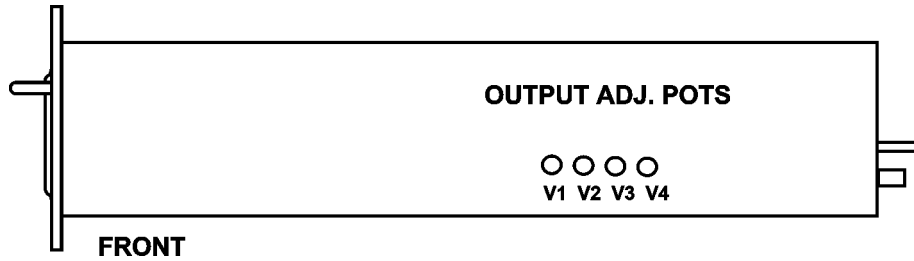

Figure 7. Output Voltage Adjustment Potentiometers
- 11.6 Output Voltage Adjustments.** The main output voltage (V1) and the auxiliary output voltages (V2, V3, V4) are independently adjustable by means of potentiometers accessible on the right side of each module. See Fig. 7. V1, V2 and V3 have an adjustment range of ±10% and V4 has an adjustment range of ±5%. When adjusting output voltages at the output terminals to values higher than nominal, it must be remembered that this